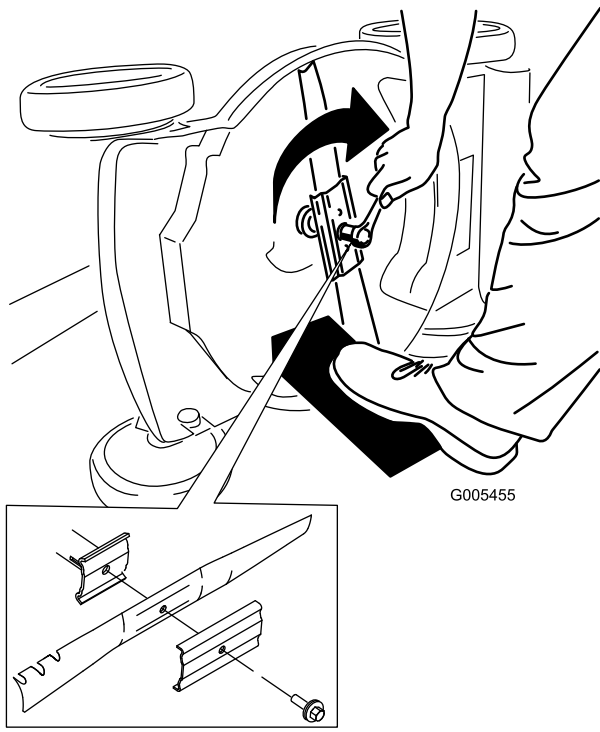

Figure 37
5. Install the new blade and all mounting hardware (Figure 37).